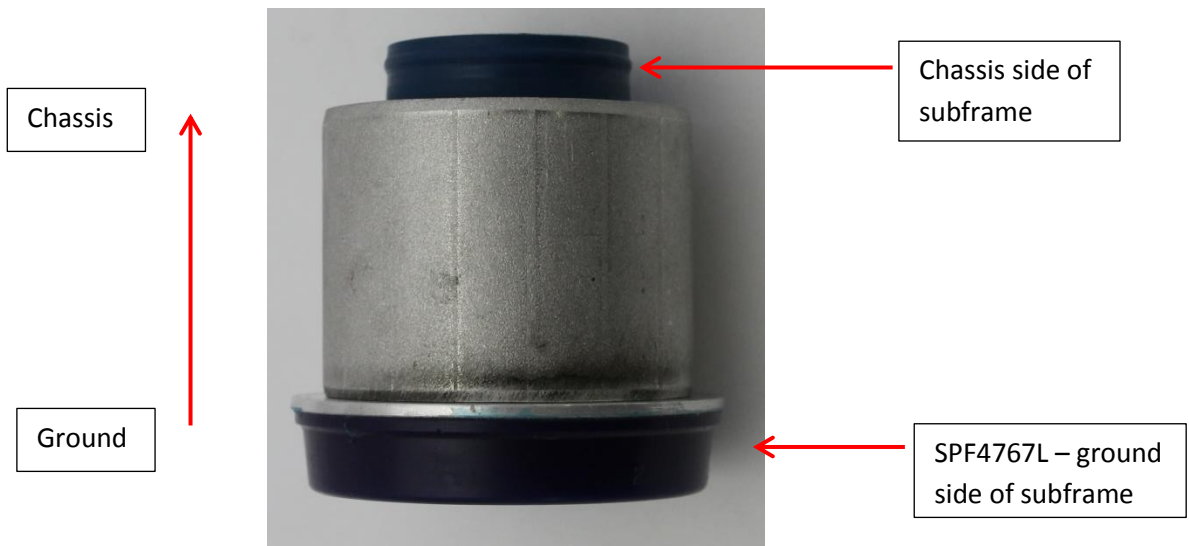

Figure 3
- 14) Install new Polyelast subframe bushes. Ensure bush is pushed in from bottom of subframe. SPF4767L should be attached to bush and needs to be located on the bottom side of the subframe. (Figure 3) SPF4767U (Figure 4) should be loose in the kit and will need to be installed once bush is pushed into housing. This snubber sits between the subframe and the chassis.